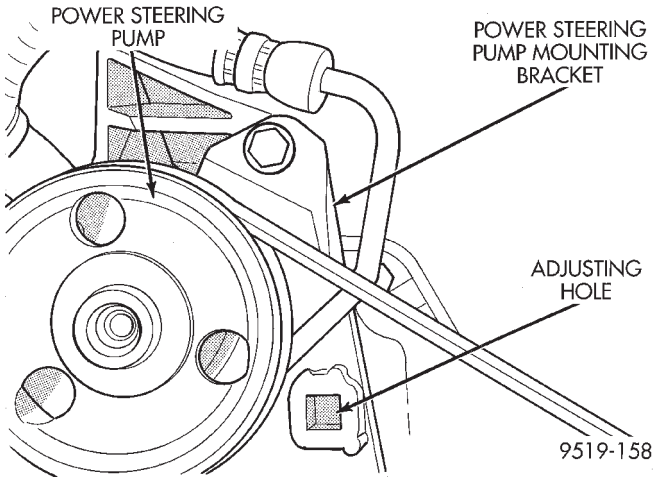

Fig. 42 Power Steering Pump Front Mounting Bracket Adjusting Hole
(8) Install the power steering pressure hose on the power steering pump pressure fitting and, loosely install the Banjo Bolt.
(9) Install power steering pump drive belt on power steering pump pulley.
(10) Install a 1/2 in. breaker bar in the square adjusting hole in the front power steering pump mounting bracket (Fig. 42) Then rotate pump to obtain the correct drive belt tension. See Accessory Drive Belts in Group 7 Cooling System of this service manual for the correct drive belt tension specification. When correct drive belt tension is obtained first tighten the bottom 2 adjusting slot bolts at the power steering pump cast mounting bracket to a torque of 54 N·m (40 ft. lbs.). Then tighten the power steering pump mounting bracket top pivot bolt to a torque of 54 N·m (40 ft. lbs.).